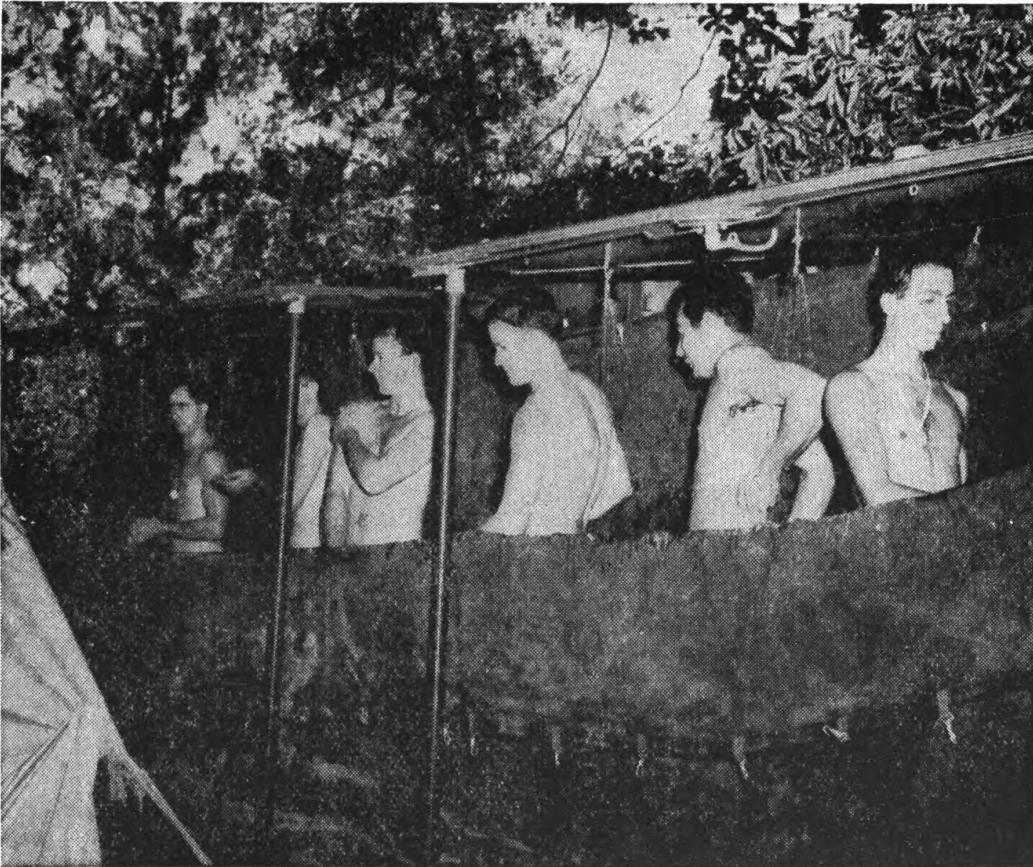

FIGURE 3.—Sterilization trailer.
b. The men place all clothing except shoes in the net and securely close top of net with whale (net) pin. Each man should tie his shoes together by the laces and turn the net and shoes over to the processor. The men then proceed to the sterilization trailer for bathing, six men to each side of the trailer, as illustrated in figure 3. Five minutes are allowed each group in the receiving and undressing tent.